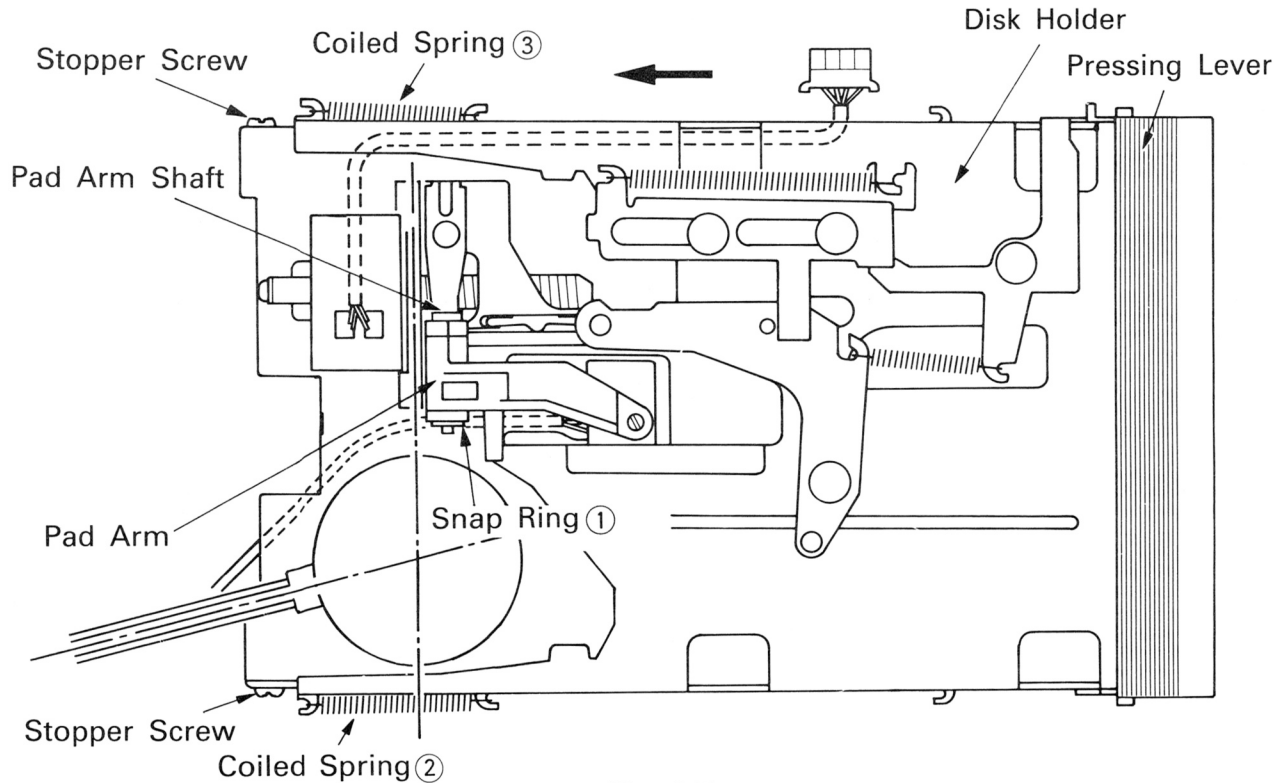
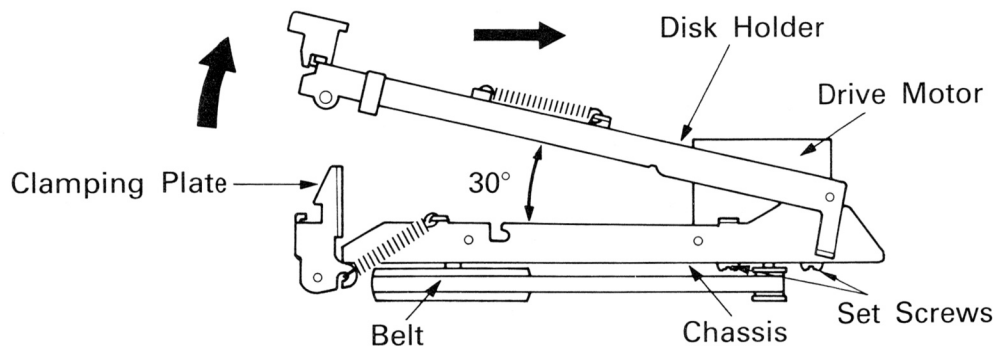

Fig. 3-7
Fig. 3-8
1. Remove the snap ring ① and pull out the pad arm shaft (Fig. 3-7).
3. Remove the 2 coiled springs ② and ③.
5. Release the lock of the clamping plate and remove the disk holder by pulling it backward while holding it up at about a 30-degree angle (between the chassis and the disk holder). (Fig. 3-8)